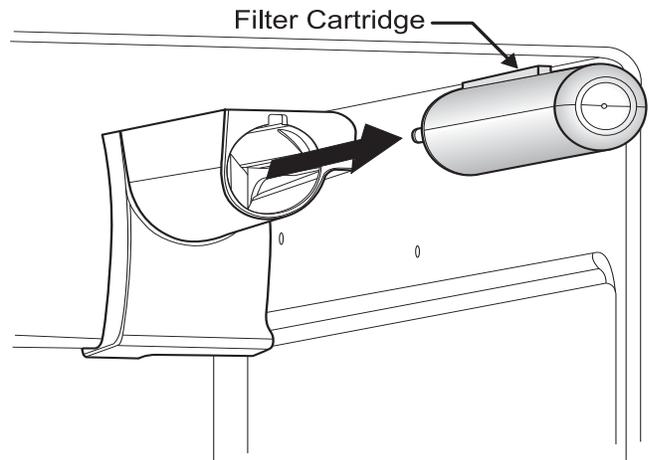

Figure 5-3. Removing Water Filter Cartridge
The water filter system filters all dispensed drinking water, as well as the water used to produce ice. The water filter is located at the top right side of the fresh food compartment (See Figure 5-3)
- 2 Remove the filter by pushing on the end/face of the filter (See Figure 5-3).